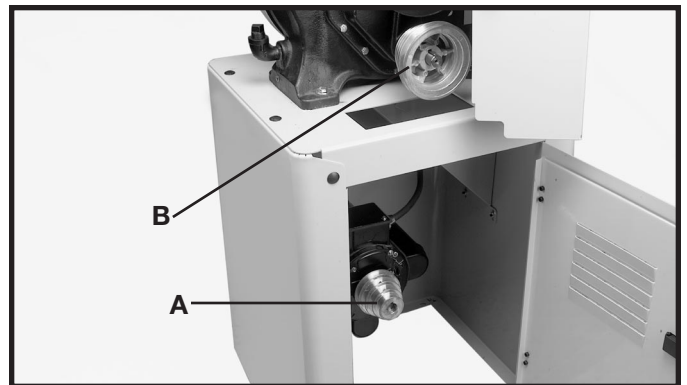

Fig. 24
**NOTE:** Both the motor pulley (A) Fig. 24, and the gearbox pulley (B) are four-step pulleys and should always be attached inverted to each other.
2. Use a straight edge to align the inside grooves of the pulleys (A) and (B) Fig. 24 to the inside edge of the drive pulley (C). The pulleys can be moved in or out on the shafts and the motor can also be moved.